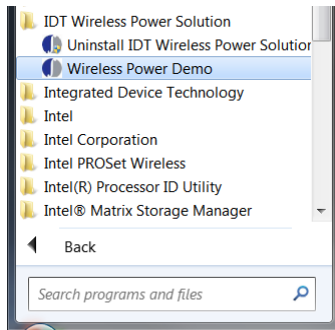

Figure 20. Starting the Graphical User Interface
5. Click Start >> All Programs >> Integrated Device Technology (Folder) >> Wireless Power Demo (Application Icon) to open the GUI for IDTP9036A Wireless Power Transmitter Demo software Fig 20.